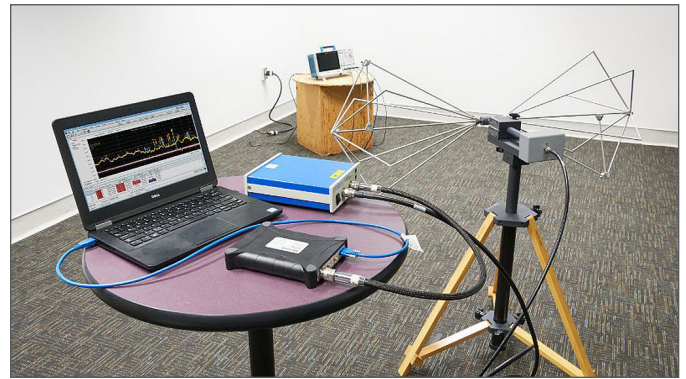

Figure 3: Typical radiated emissions pre-compliance test setup in a large room. The spacing between the EMI antenna and equipment under test is 3 m.
*Figure 3* shows the equipment required for radiated emissions pre-compliance testing, including a calibrated antenna, preamp, and spectrum analyzer with EMC software. For conducted emissions testing, all you'll likely need are a spectrum analyzer and a line impedance stabilization network (LISN), and optional power filter or preamp. However, by far, the most common EMC failure encountered by designers during a full EMC compliance test is due to radiated emissions.